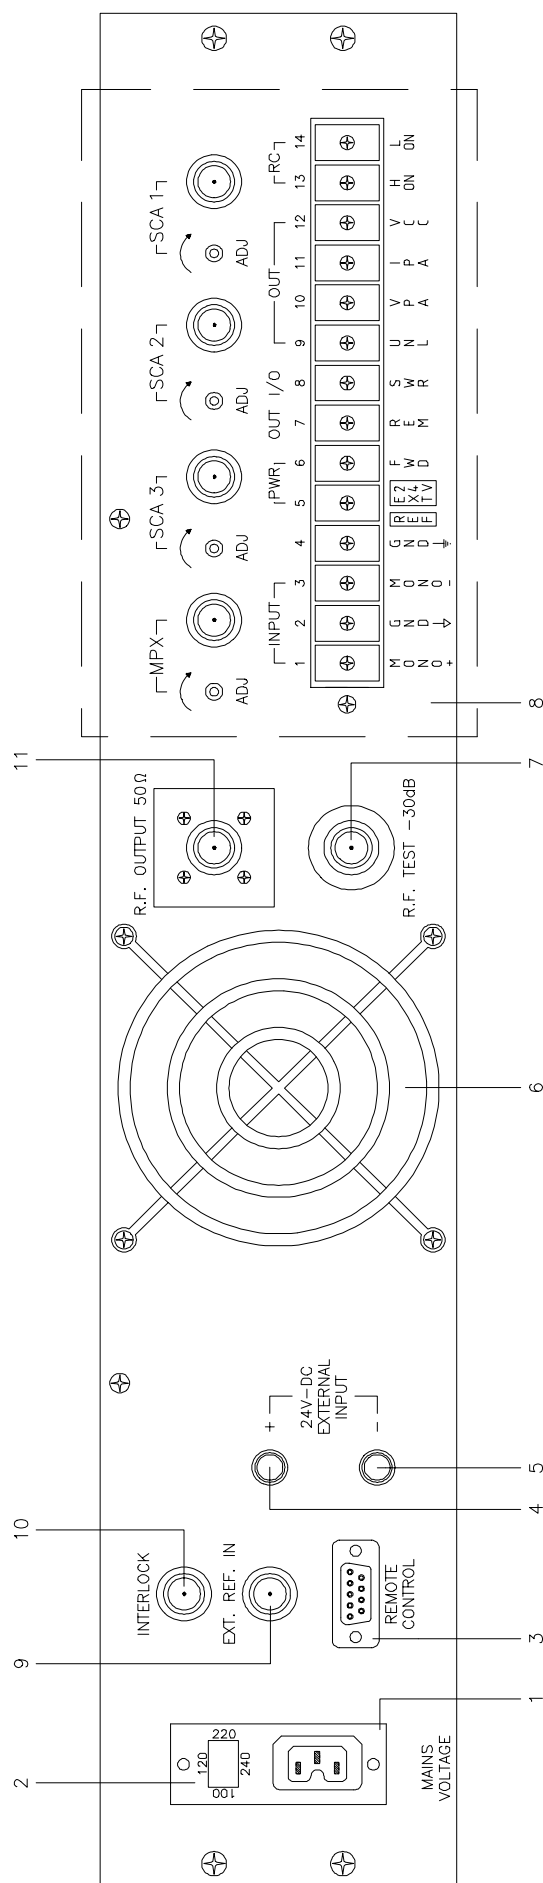

FIG. 2
First of all select the correct supply voltage using the selector situated on the rear panel; use a screwdriver to raise the cover (2 Fig.2) on which are written the various voltages, rotate it until the arrow points to the correct voltage and re-insert it.
- 2) Connect a 30dB attenuator between the R.F. Output connector (5 Fig.2) and Power Meter (see SETUP 1 Fig.5).
5) Connect power to the unit via the VDE socket (1 Fig.2).